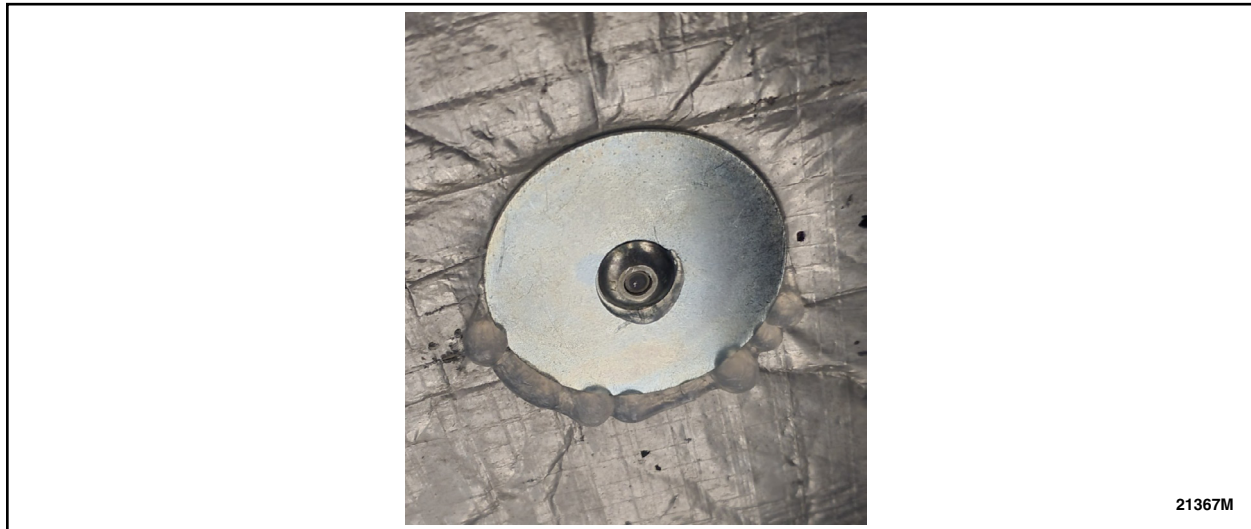

FIGURE 13
14. Using a M18-1/4" rivet gun, install the rivet and washer to the drilled hole. See Figure 13.